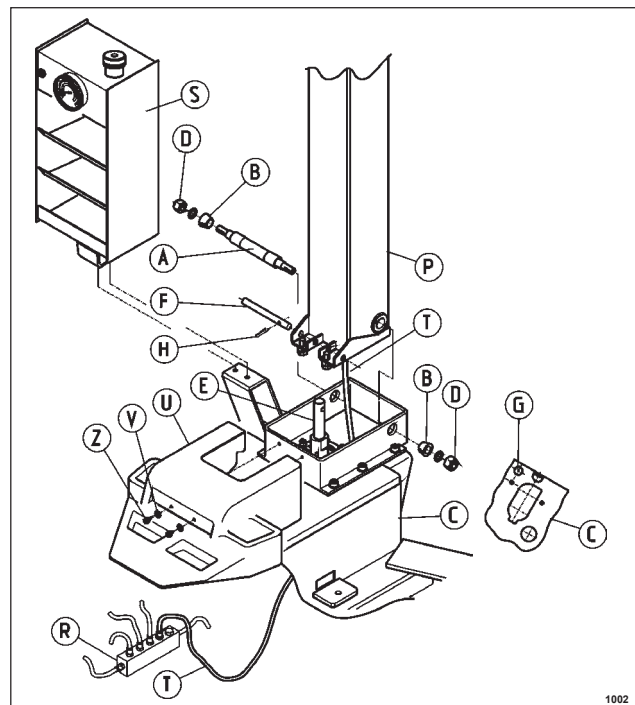

Fig. 2.0-2
B. Lift the column 'P' (Fig. 2.0-2) with an appropriate lifting tool (crane, fork lift) and a belt of sufficient capacity. For this operation it is required to be helped by a second person. BE CAREFUL NOT TO DAMAGE THE AIR HOSES. Introduce the air hoses 'T' through the hole 'G' of the cabinet 'C'.
C. Mount the column 'P' as shown in Fig. 2.0-2 and connect it to the cabinet through shaft 'A', nut 'D' and the conical bushings 'B'.
Attach air hose 'T' (Fig. 2.0-2) to pressure reducer 'R', laying on the bottom of cabinet 'C'.
Fix the tool box 'S' with the available screws, as shown in Fig. 2.0-2.
Mount the cover 'U' (Fig. 2.0-2), by tightening the screws 'Z'